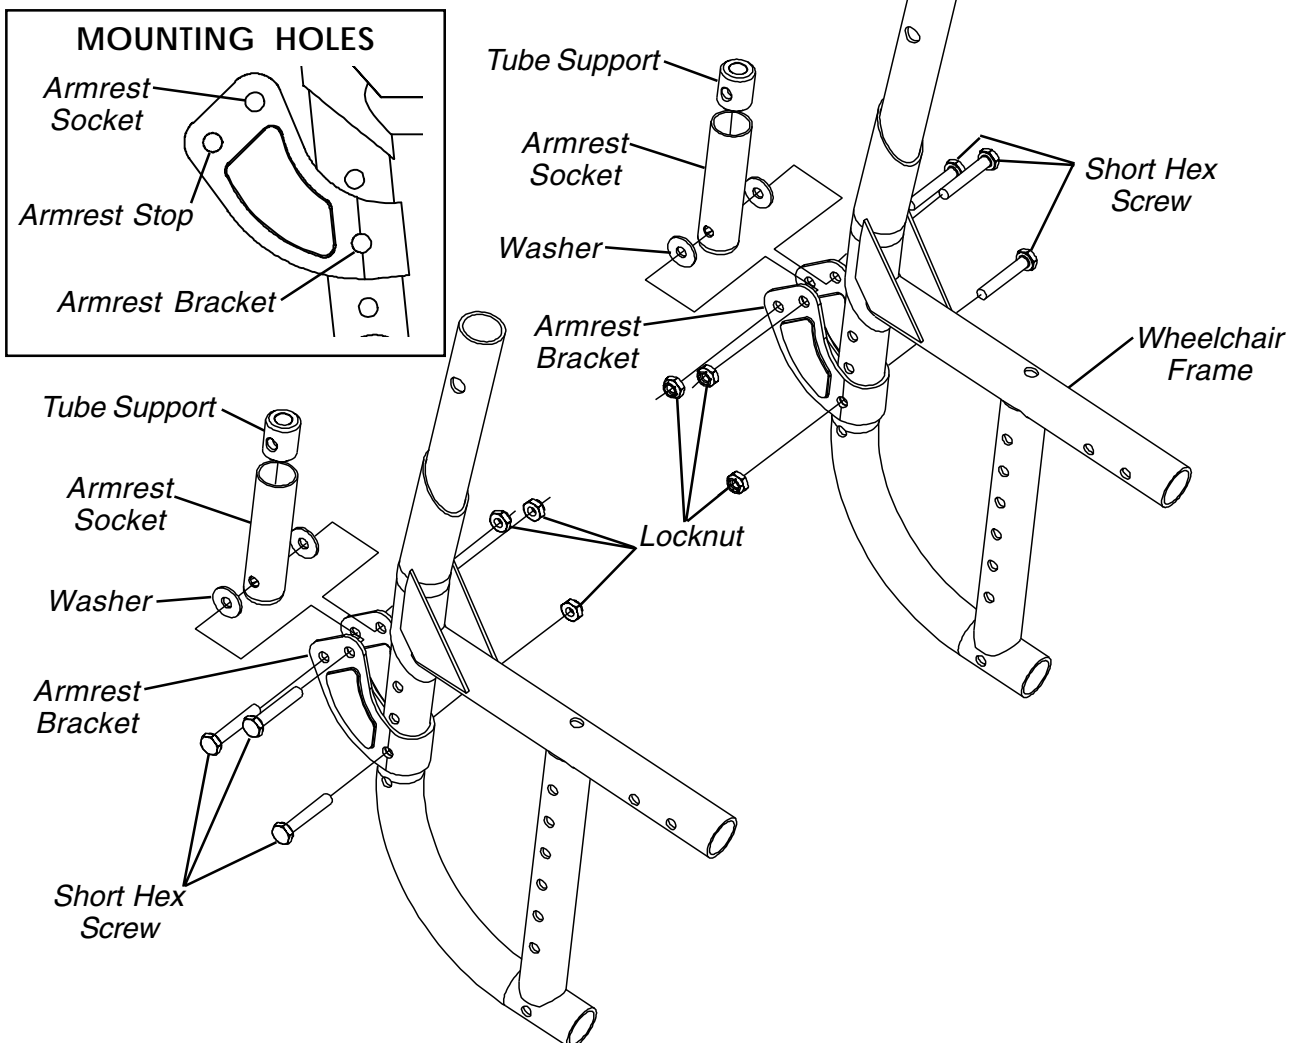

FIGURE 4 - REAR ARMREST SOCKET INSTALLATION ON WHEELCHAIRS BUILT AFTER 7/00 - SPACE SAVER ARMREST SOCKETS
Space Saver Armrest Sockets (FIGURE 4)
NOTE: Mounting hardware must be installed in the orientation shown in FIGURE 4.
5. Install short hex screw through armrest bracket, washer, armrest socket, tube support, washer and armrest bracket as shown in FIGURE 4.